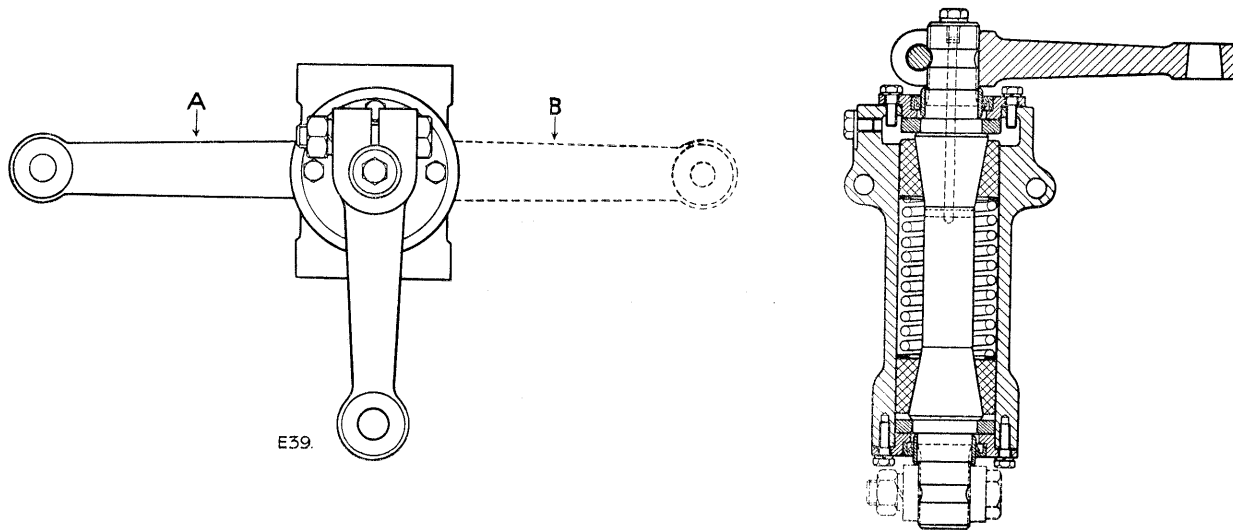

Fig. G-5—Relay unit
1. Reverse removal procedure. The lower relay lever must be fitted as illustrated at Fig. G-5.